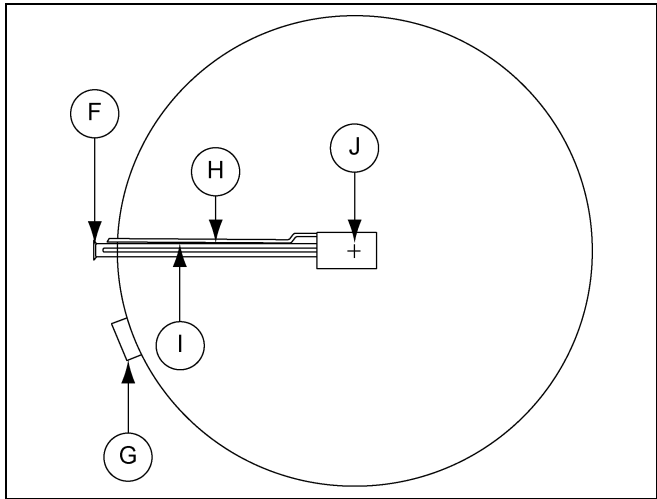

Figure 5G
9. Set the Grain Flow sump in the center of the bin with the discharge opening pointed in the proper direction. Adjust the legs to the correct height and level to the drying floor. Finish by tightening the jam nuts on the leveling legs. BE SURE the sump is centered in the bin to avoid the floor augers hitting the wall. (See Figure 5G on Page 20.)